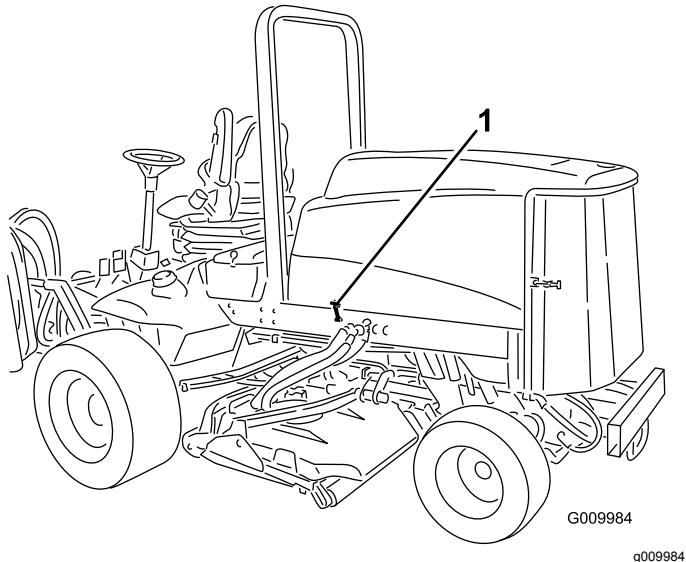

Figure 42
1. Release the hood latches (Figure 42) and pivot the hood open.